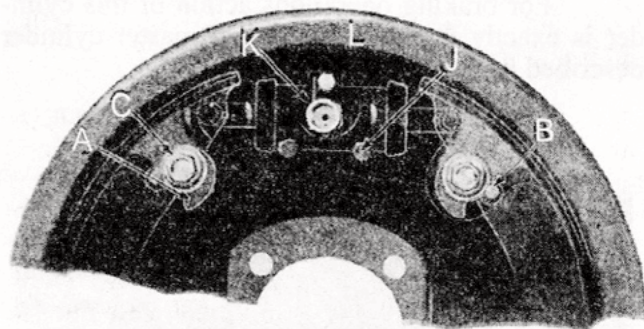

Fig. L13 - Frame side of backing plate used on Lockheed brakes
1. Jack up all four wheels. Rotate adjustment nut (C, Fig. L13) on front shoe until shoe drags against drum, then back off until wheel turns freely. Turn adjustment (C) on rear shoe (of same wheel) until shoe drags against drum, then back off until wheel turns freely. Do the same thing to the other three wheels.
Adjustment nut (C, Fig. L13) is on the frame side of each backing plate and rotates the cam (A) against which the stop pin (B) of the shoe rests. The tension of a friction spring under each cam keeps the cam locked in any position.